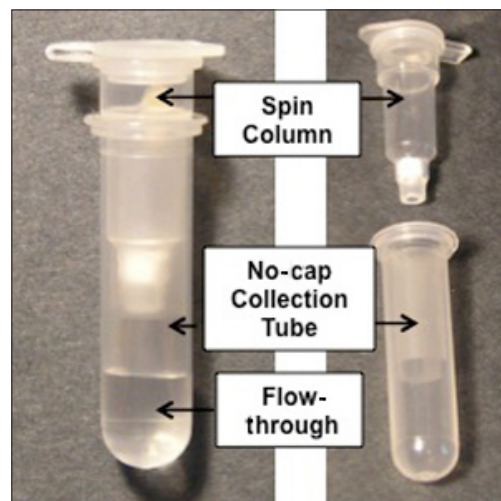

Figure 1.3: Spin Columns are Placed in No-cap Collection Tubes.
Spin columns contain a tiny piece of material in the bottom that binds to your DNA. This holds the DNA in the column while the rest of the liquids wash away into the collection tube. The liquid that passes through the columns is called the **flow-through**. Spin columns are often placed in **no-cap collection tubes** to collect the flow-through before discarding it. No-cap collection tubes are essentially microfuge tubes with the lids cut off, so the lids won’t get in your way. **Be careful when handling the spin column and no-cap collection tube** as they are not attached to each other (as seen in **Figure 1.3**).
18. You should see flow-through liquid in your no-cap collection tube. If you don't see this liquid, centrifuge your spin column again. Discard the flow-through and the no-cap collection tube. (See **Figure 1.3**).